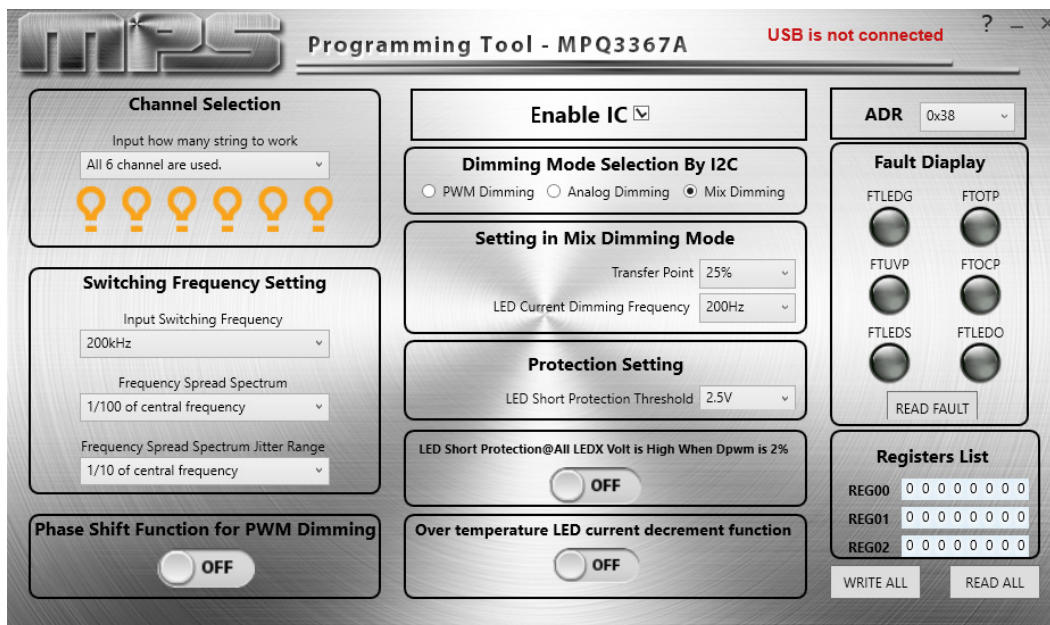

Figure 1: MPQ3364 GUI
- b. Check that the I²C kit is communicating with the computer. If the message “USB is not connected” appears on the GUI ⁽¹⁾, then the I²C kit cannot communicate with the computer (see Figure 1). Otherwise, the communication should be functioning properly.